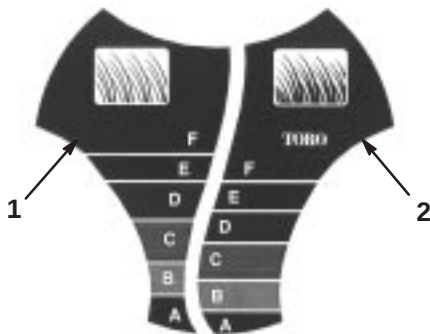

Figure 13
The *SmartWheel*™ has 2 cutting scales: *Sparse/Normal* and *Lush*—to ensure the best cutting height setting in any mowing condition (Fig. 13). Use the *Sparse/Normal* scale during the warm summer season for the majority of your mowing. The *Lush* scale is for thick, moist, and succulent grass that grows most often in the spring.
2. Move the lawn mower into the grass; stop moving the lawn mower when the *SmartWheel* design on one of the rear wheels is upright (Fig. 13).